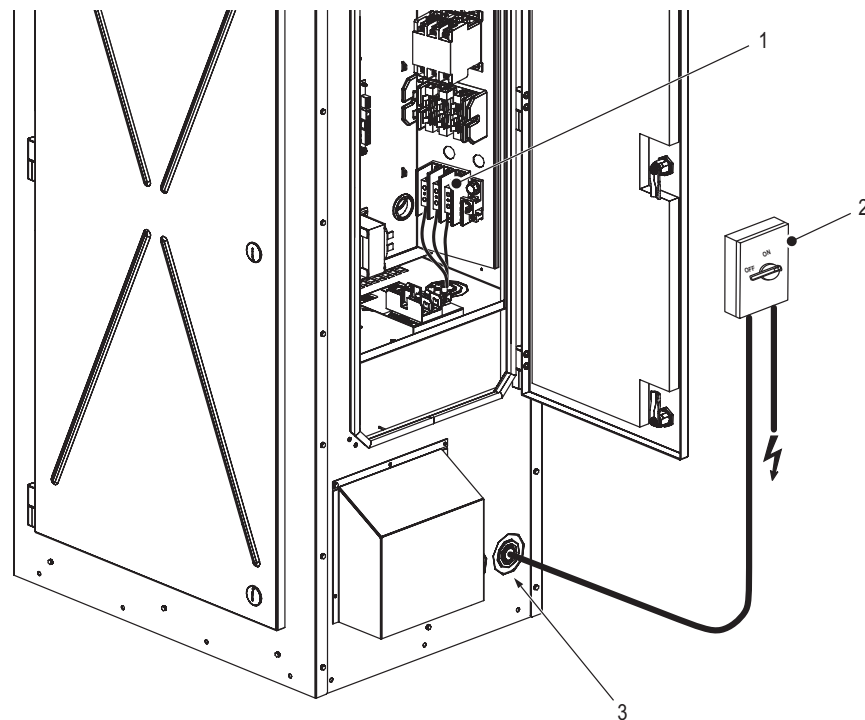

Figure 17: Nortec EL/RS Outdoor Humidifier Power Connection
- All electrical cables MUST enter the side or bottom of the unit through minimum IP55-rated cable glands (supplied by others) to ensure that the IP55 rating for the unit is maintained. Knockouts are available on the side and bottom of the unit for routing the cables into the unit – refer to Figure 17 on page 41.
- The power cable must be connected to the terminal block (X0). Refer to Figure 17 on page 41 and "Outdoor Enclosure Wiring Diagram" on page 42.